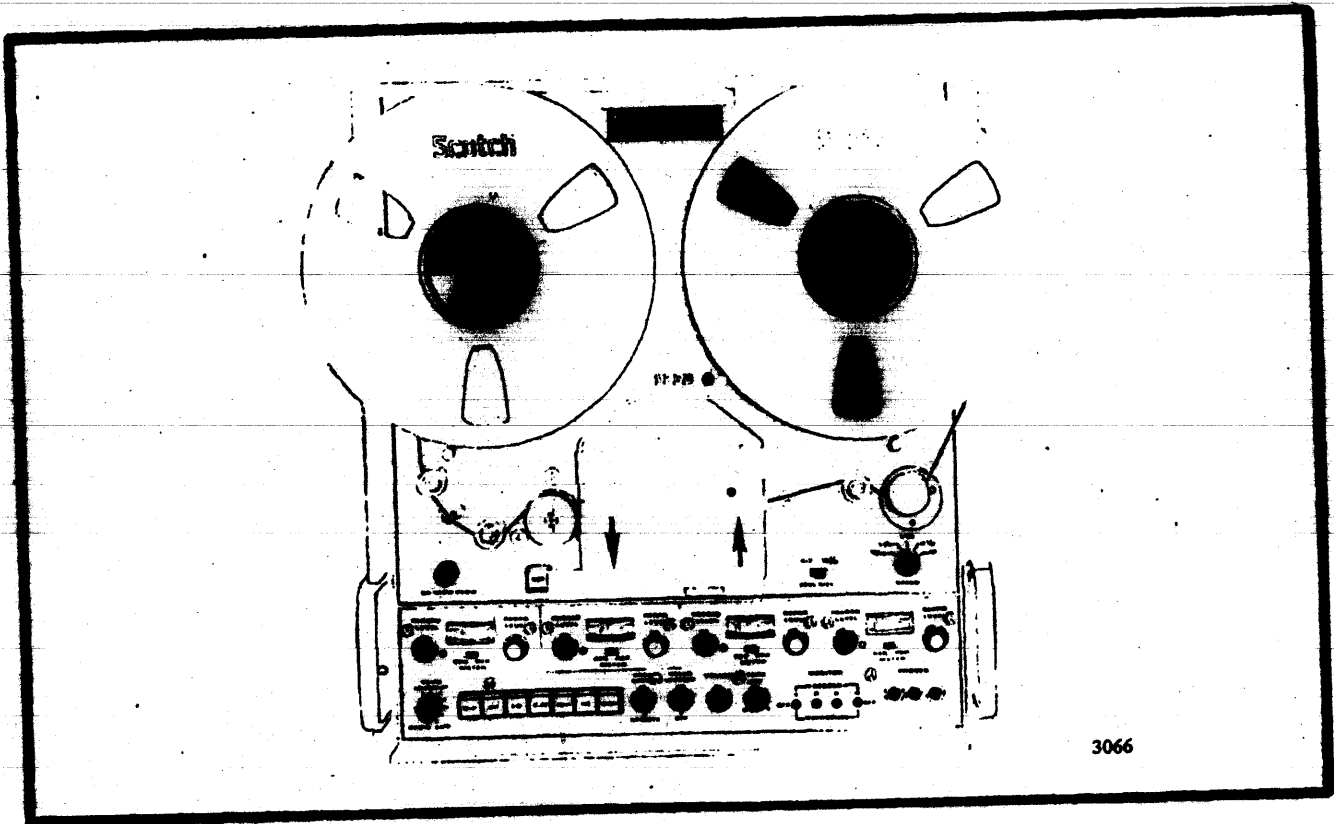

Figure 3-2. Tape Threading Path
5. Unwind about 4 feet of tape and thread the tape as shown in figure 3-2. Take a couple of turns around the take-up reel and turn the reel until there is tape tension.